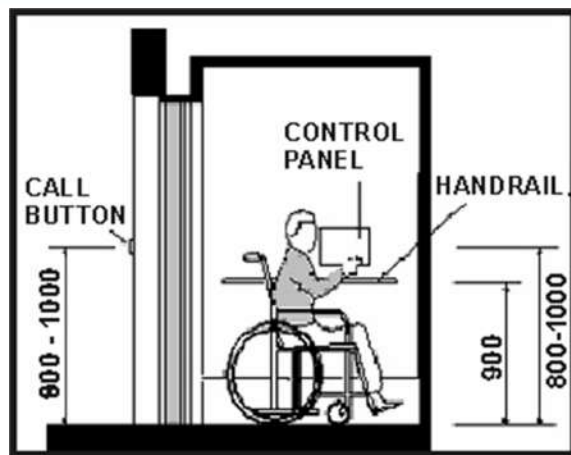

Figure 5.47 Standards for lifts door and control panel with Braille
- **Control panel:** inside the lift preferably on both the sides, having buttons with Braille and also raised letters and in bright contrast from the background (**Figure 5.47**)